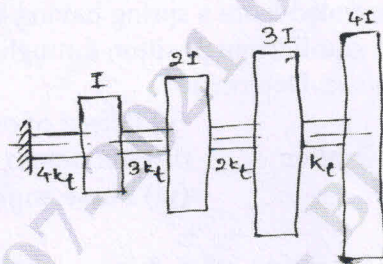

Fig.Q9 (20 Marks)
- 9 Find all the natural frequencies of the four degree of freedom system shown in Fig.Q9 by Holzer's method.